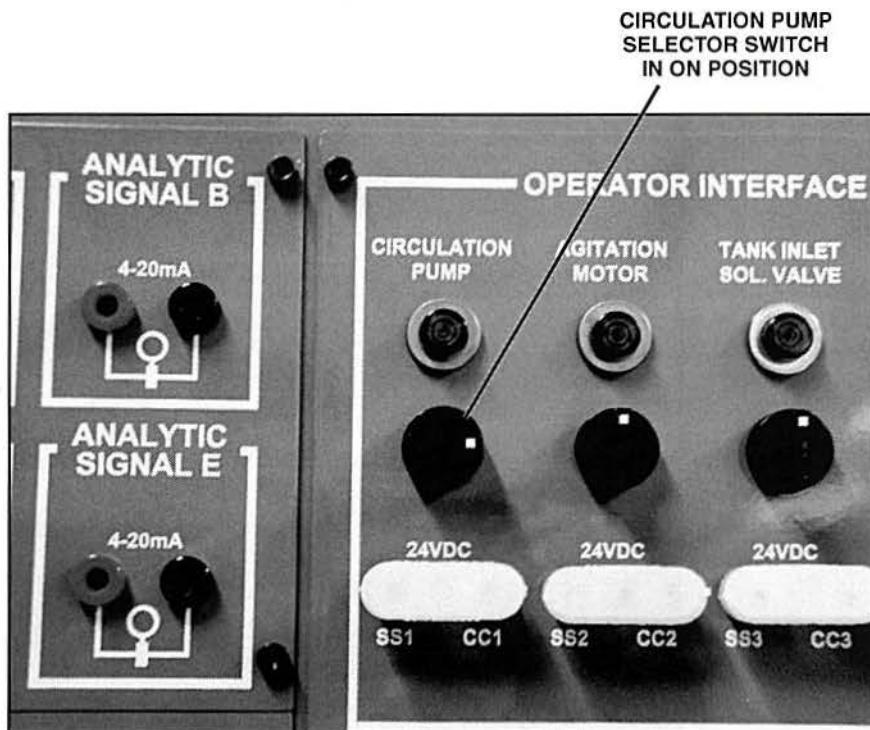

Figure 54. The Circulation Pump Selector Switch in the ON Position
- D. Turn on the circulation pump by rotating the **CIRCULATION PUMP** selector switch on the Operator Interface Panel, shown in figure 54, to the ON position (clockwise).